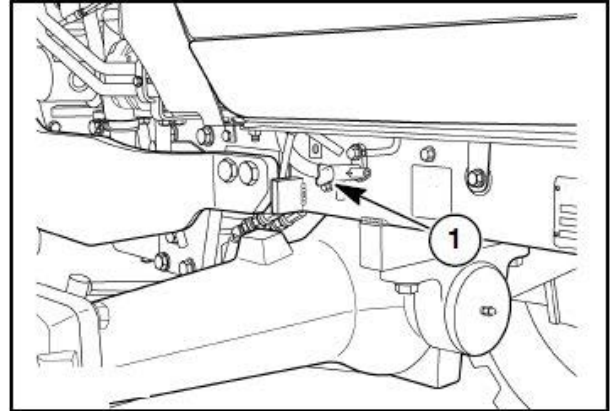
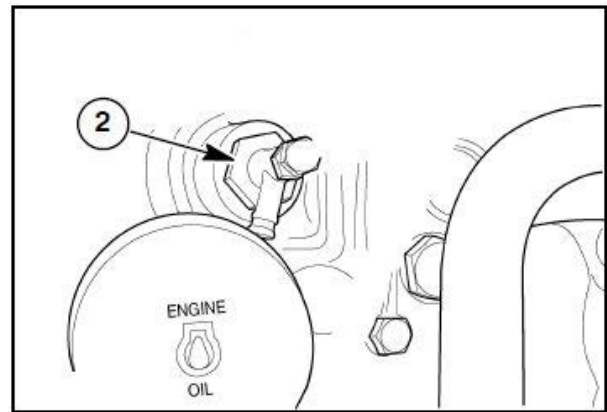

Figure 3-24
Figure 3-25
1. Use a suitable receptacle to catch the used coolant. Remove the radiator cap and open the drain valve (1) in Figure 3-24, on the right-hand side of the tractor frame, to drain the radiator and drain valve (2) in Figure 3-25, on right side of engine block to drain engine block.